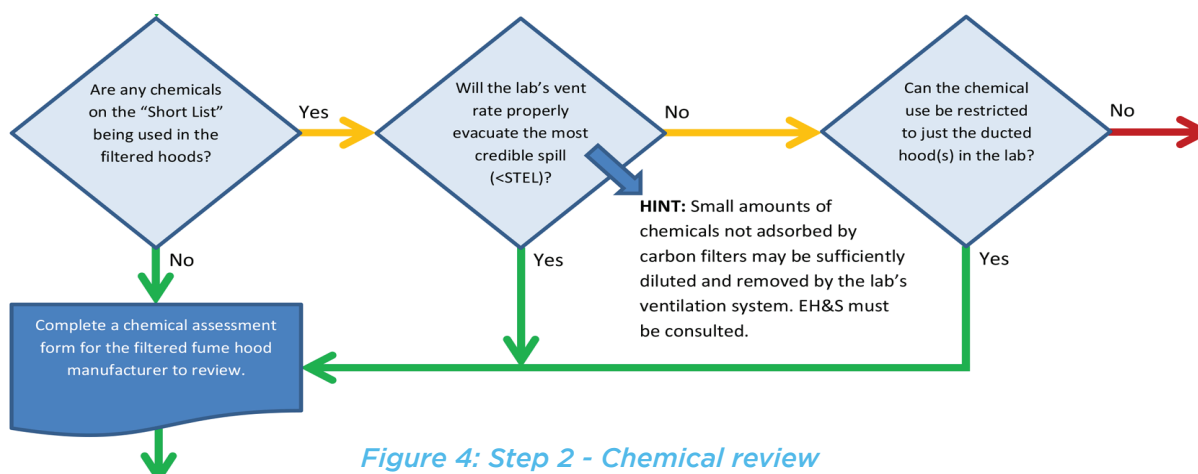

Figure 4: Step 2 - Chemical review
- 2) Once you have determined that there are operational and/or construction cost savings by using GFH, the next step is to make sure that the chemicals to be used by the researchers, scientists and students will be captured and retained by the GFH filtration technology (see Figure 4).
- a. Review the “short list” of chemicals not captured well by any carbon-based filtration technology. These chemicals are those with very low molecular weights and low boiling points (i.e. gaseous at standard temperature and pressure). They include: Hydrogen, all (6) Noble Gases, Methane, Ethane, Ethylene Oxide, Carbon Monoxide, Carbon Dioxide, Nitrogen Monoxide, Propylene, Propyne, Propane, Acetylene, etc. Fortunately, these gases are not commonly used in chemistry labs. If they are used, typically they are in small quantities.
- ii. If the concentration would rise to a hazardous level there is the option of moving this chemical handling to a ducted hood within the lab. Quite commonly, the first hood in the lab is a ducted hood so as to achieve the minimum ventilation rate required by codes (item 1.a.i above). This single ducted hood could be the location for handling any chemicals on the short list, thereby allowing the remaining hoods to be GFH.